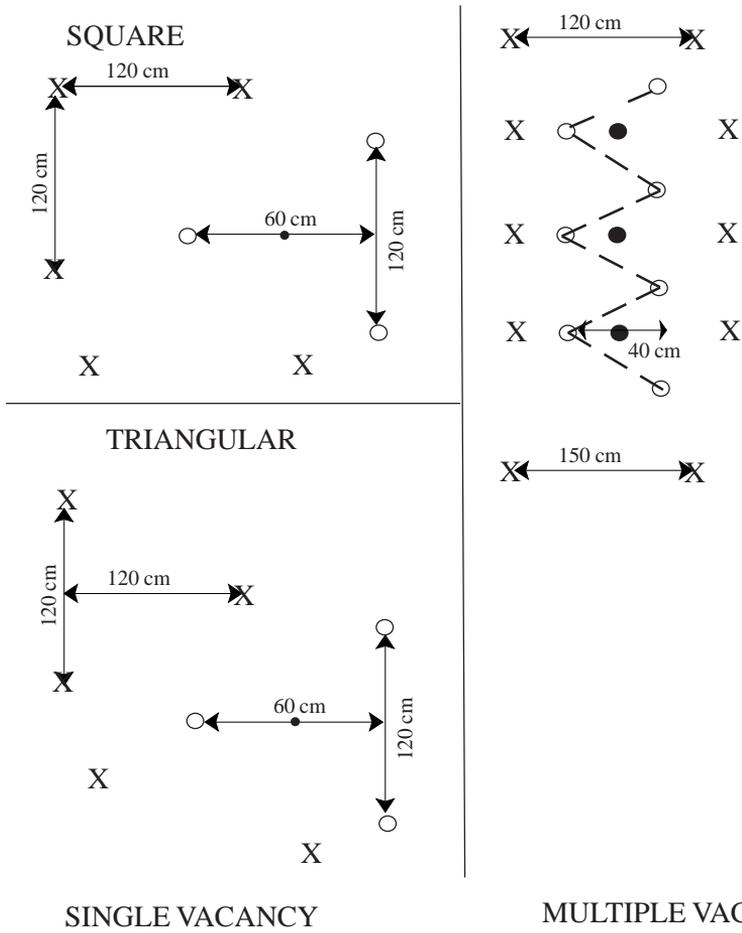

Fig. 1. Infilling (X = Existing bush O = Infills ● = Vacancy)
- a) Single vacancies in square and triangular planting needs 3 infills. In multiple vacancies, $(2 \times \text{vacancy} + 1)$ infills should be planted in staggered double hedge (**Fig. 1**).